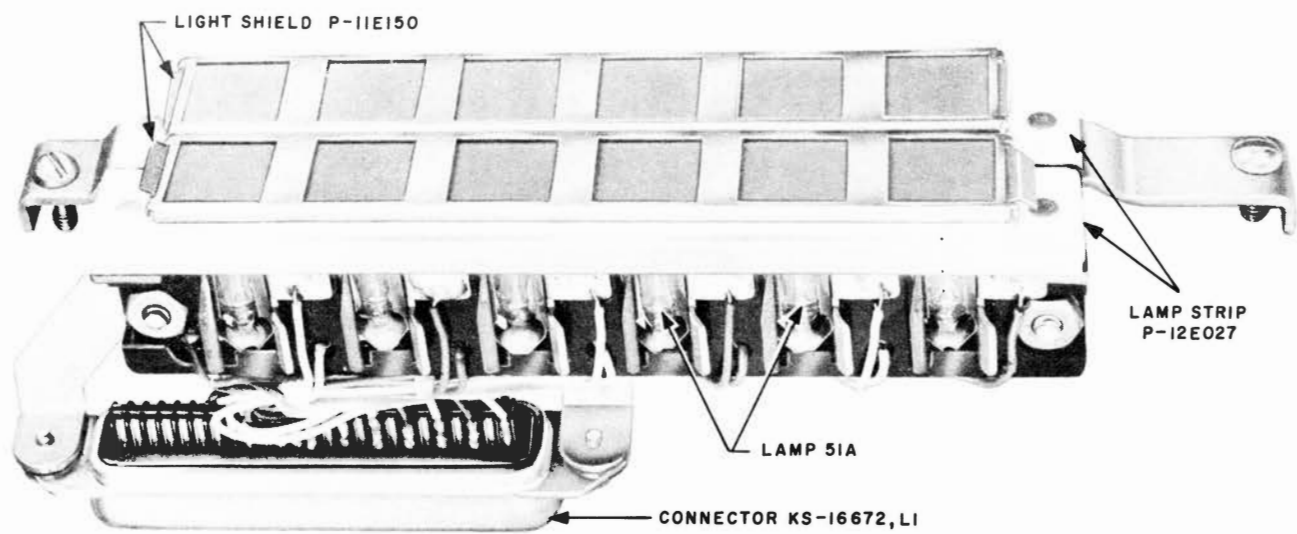

Fig. 1 - 59A Lamp Socket
**3.02** The 59A lamp socket module (see Fig. 1) consists of two lamp strips, each containing six 51A lamps. Lamp strips are mounted on a steel frame and are wired to a 50-terminal KS-16672, List 1 connector. Lamp designation is accomplished by placing an E-4646 designation strip over each row of lamps. The designation strips are held in place by a P-11E150 light shield.